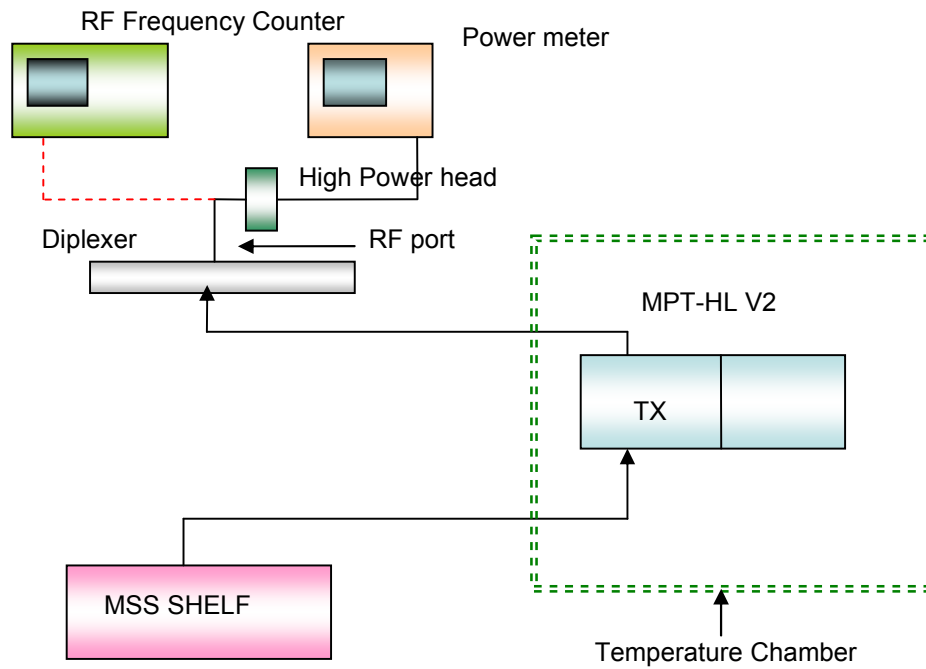

Figure 7 Transmitter verification setup over Temperature
- Connect as shown in figure 7